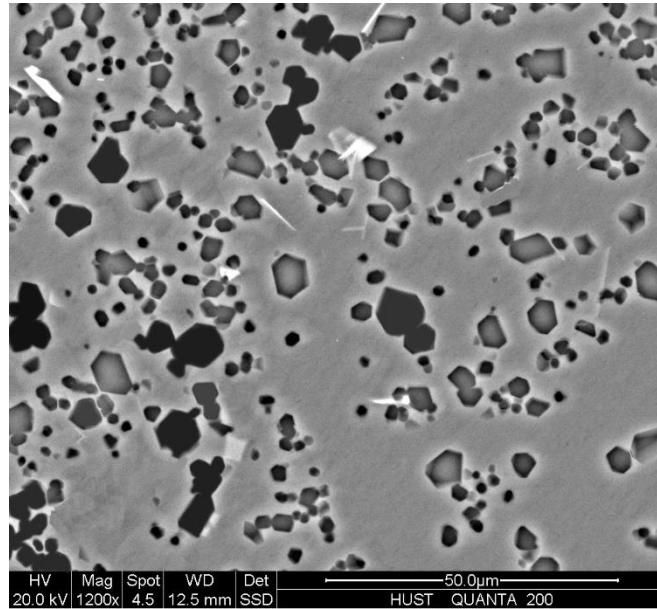

Figure S3. The processed image used for measurement.
3. The large-sized  $\text{Mg}_2\text{Si}$  phase has a darker black edge and a lighter gray center, as shown in Figure S2, which is inconvenient to extract the outline of the  $\text{Mg}_2\text{Si}$  phase during the measurement. Therefore, we used photoshop to adjust the color of these areas for the subsequent measurement. In addition, other areas in the image that would affect the identification of the  $\text{Mg}_2\text{Si}$  phase also need to be processed. The processed image is shown in Figure S3.